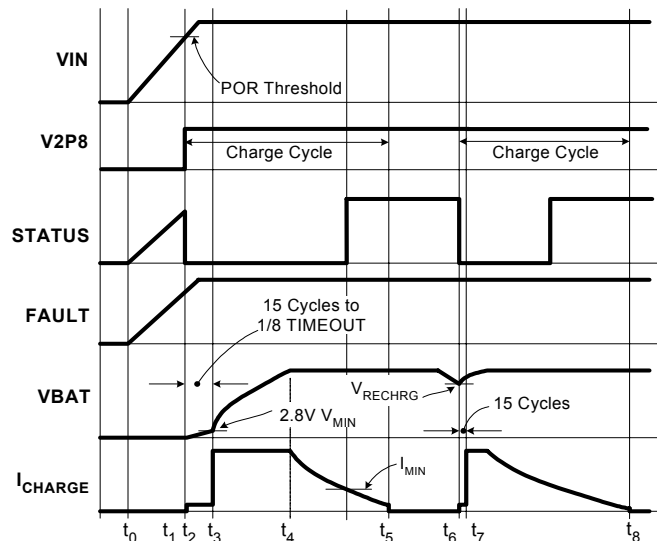

FIGURE 5. OPERATION WAVEFORMS
Figure 5 illustrates the typical signal waveforms for the linear charger from the power-up to a recharge cycle. More detailed Applications Information is given below.
LOW and a HIGH logic signal respectively. Figure 5 illustrates the start up of the charger between t_0 to t_2 .
A charge cycle consists of three charge modes: trickle mode, constant current (CC) mode, and constant voltage (CV) mode. The charge cycle always starts with the trickle mode until the battery voltage stays above V_{MIN} (2.84V typical) for 15 consecutive cycles of the internal oscillator. If the battery voltage drops below V_{MIN} during the 15 cycles, the 15-cycle counter is reset and the charger stays in the trickle mode. The charger moves to the CC mode after verifying the battery voltage. As the battery-pack terminal voltage rises to the final charge voltage V_{CH} , the CV mode begins. The terminal voltage is regulated at the constant V_{CH} in the CV mode and the charge current is expected to decline. After the charge current drops below I_{MIN} (1/10 of I_{REF} , see End-of-Charge Current for more detail), the ISL6292C indicates the end-of-charge (EOC) with the STATUS pin. The charging actually does not terminate until the internal timer completes its length of TIMEOUT in order to bring the battery to its full capacity. Signals in a charge cycle are illustrated in Figure 5 between points t_2 to t_5 .
After a charge cycle completes, charging is prohibited until the battery voltage drops to a recharge threshold, V_{RECHRG} (see Electrical Specifications). Then a new charge cycle starts at point t_6 and ends at point t_8 , as shown in Figure 5. The safety timer is reset at t_6 .
The trickle mode charge has a time limit of 1/8 $T_{TIMEOUT}$. If the battery voltage does not reach V_{MIN} within this limit, a $T_{TIMEOUT}$ fault is issued and the charger latches up. The charger stays in trickle mode for at least 15 cycles of the internal oscillator and, at most, 1/8 of $T_{TIMEOUT}$, as shown in Figure 5.
The EOC current I_{MIN} sets the level at which the charger starts to indicate the end of the charge with the STATUS pin, as shown in Figure 5. The charger actually does not terminate charging until the end of the $T_{TIMEOUT}$, as described in the Total Charge Time section. In the